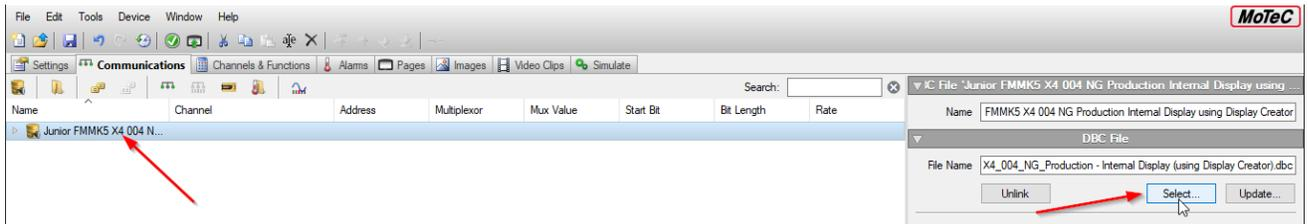

Figure 4.44: Display Creator – replacing an existing .dbc file.
3. Select the .dbc file in the communications tab and then hit the 'Select' button as shown in Figure 4.44.